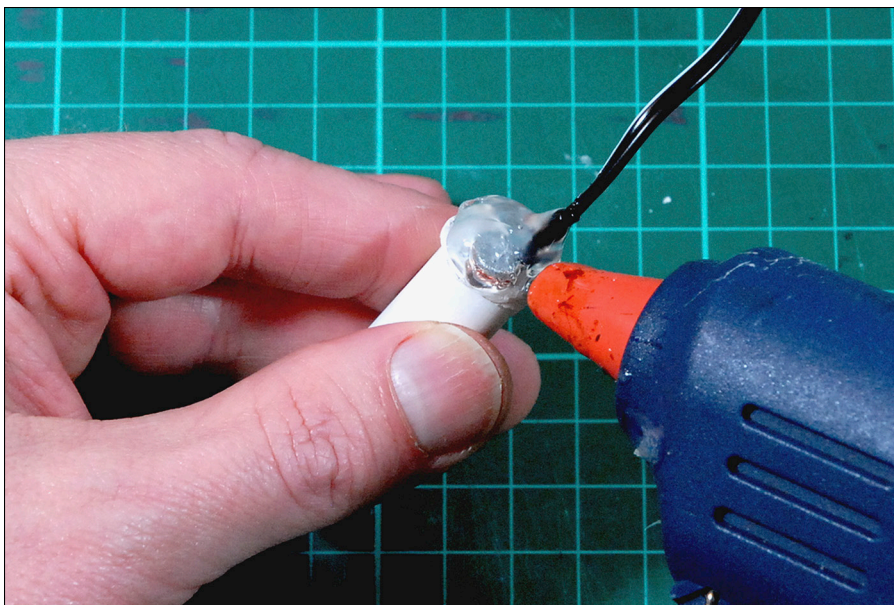

Figure 10-9:
10. Apply a neat coating of hot glue to the top of your probe. Refer to Figure 10-9.